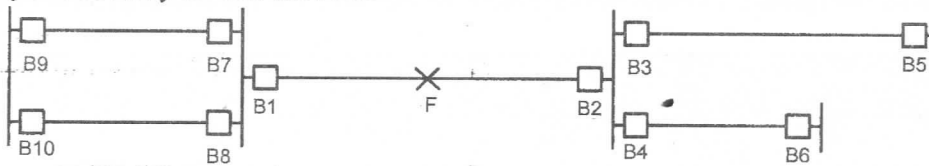

Fig. 3
- Consider the fault F on the transmission line shown in Fig. 3. Discuss the relaying system dependability and security for this network.